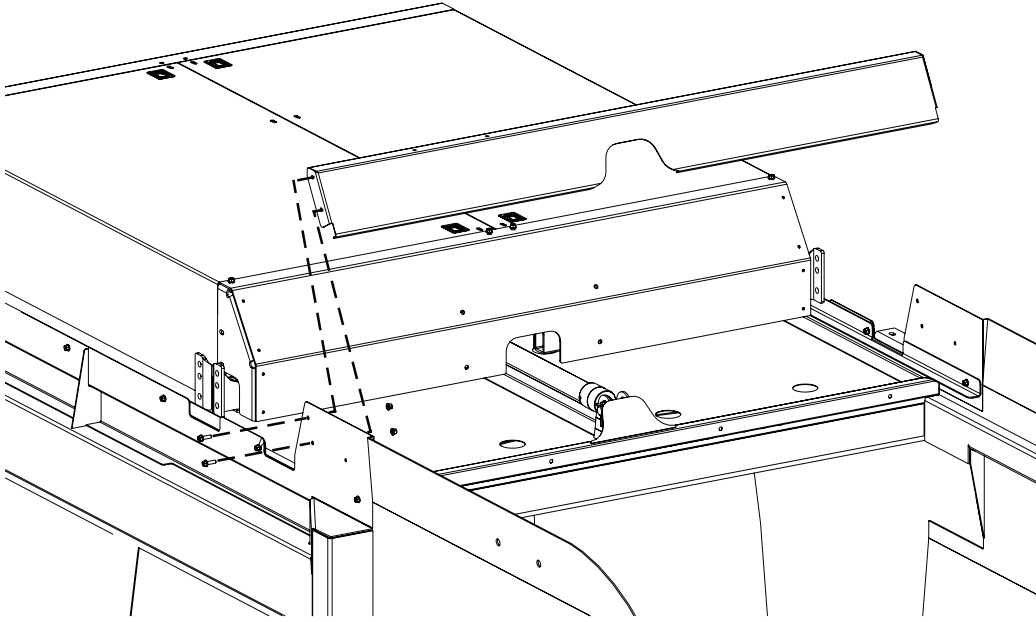

Figure 1
3. Attach the slings and overhead crane (as necessary) and remove the existing deflector and hardware (from the sides) (Figure 1). Retain the hardware - some will be reused during installation of the new refuse deflector weldment.